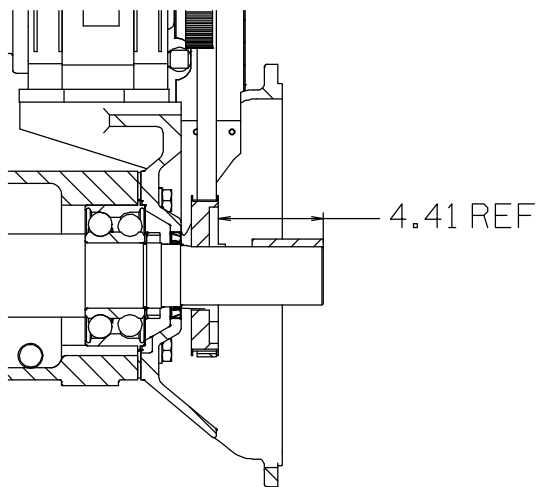

Figure 7. Drive Sprocket Positioning
Install the key (34) in the shaft keyway, making sure to leave room in the keyway for the drive key (28, Figure 3). Install the bushing (7) and sprocket (6) on the shaft to the dimension shown in Figure 7.